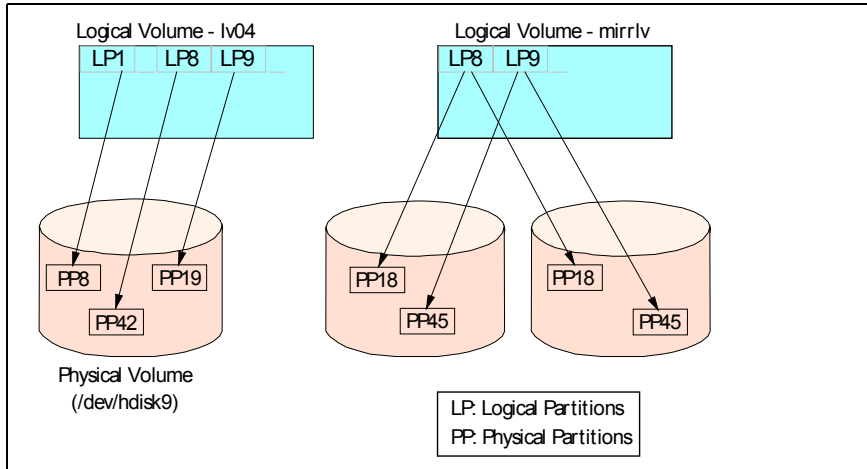

Figure 2-25 Relationships between LP and PP
- ▶ Every physical volume in use belongs to a volume group (VG) unless it is being used as a raw storage device.
- ▶ Each logical volume consists of one or more logical partitions (LPs). Each logical partition corresponds to at least one physical partition (see Figure 2-25). If mirroring is specified for the logical volume, additional physical partitions are allocated to store the additional copies of each logical partition (with DS4000, this is not recommended, because DS4000 can do the mirroring).